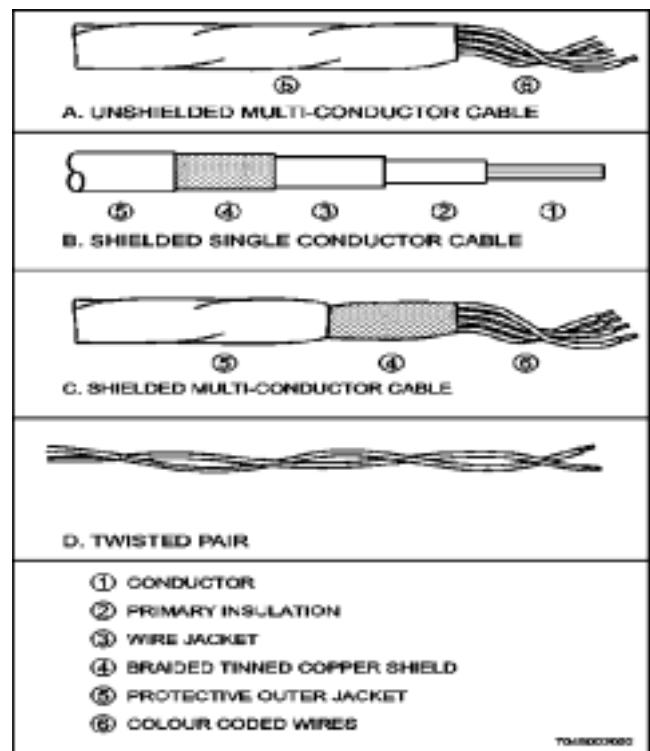

Figure 1-2 Cables Commonly Used In Aircraft
5. The term “cable,” as used in aircraft electrical installations (refer to Figure 1-2), includes the following: